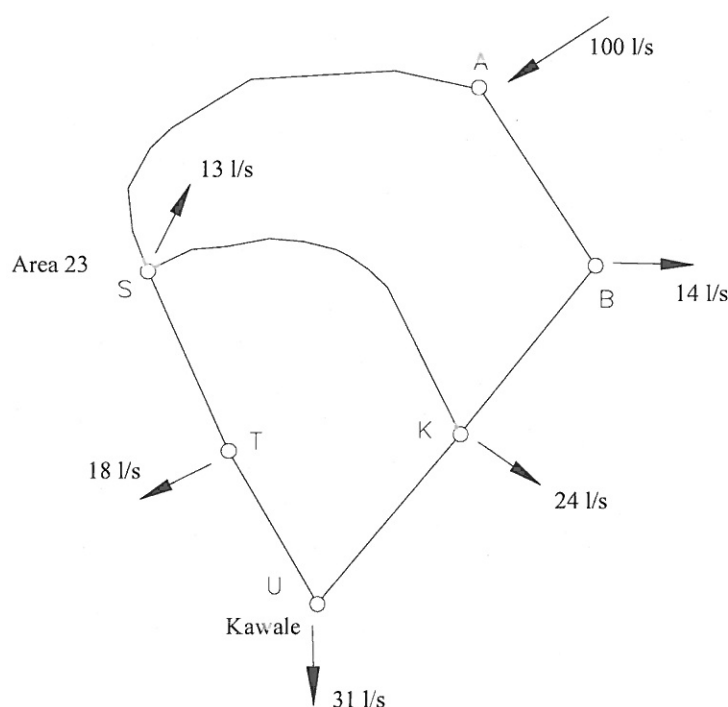

Fig 6.4
**Fig 6.4** presents a simplified skeleton of part of a bigger distribution network of a water supply project. The initial estimated pressure heads and demands in the network are presented in **Table 6.5**. Pipe information is presented in **Table 6.6**. It is agreed that for the whole network, the friction coefficient ( $f = 0.018$ ) can be assumed to be the same for all the pipes. Inflows into and outflows from various pipe nodes are as indicated in the network. Using the Flow-Balance Method, determine the new pressure heads at each node after performing **only 1 (one) iteration**. (*Calculation sheet provided may be used*).